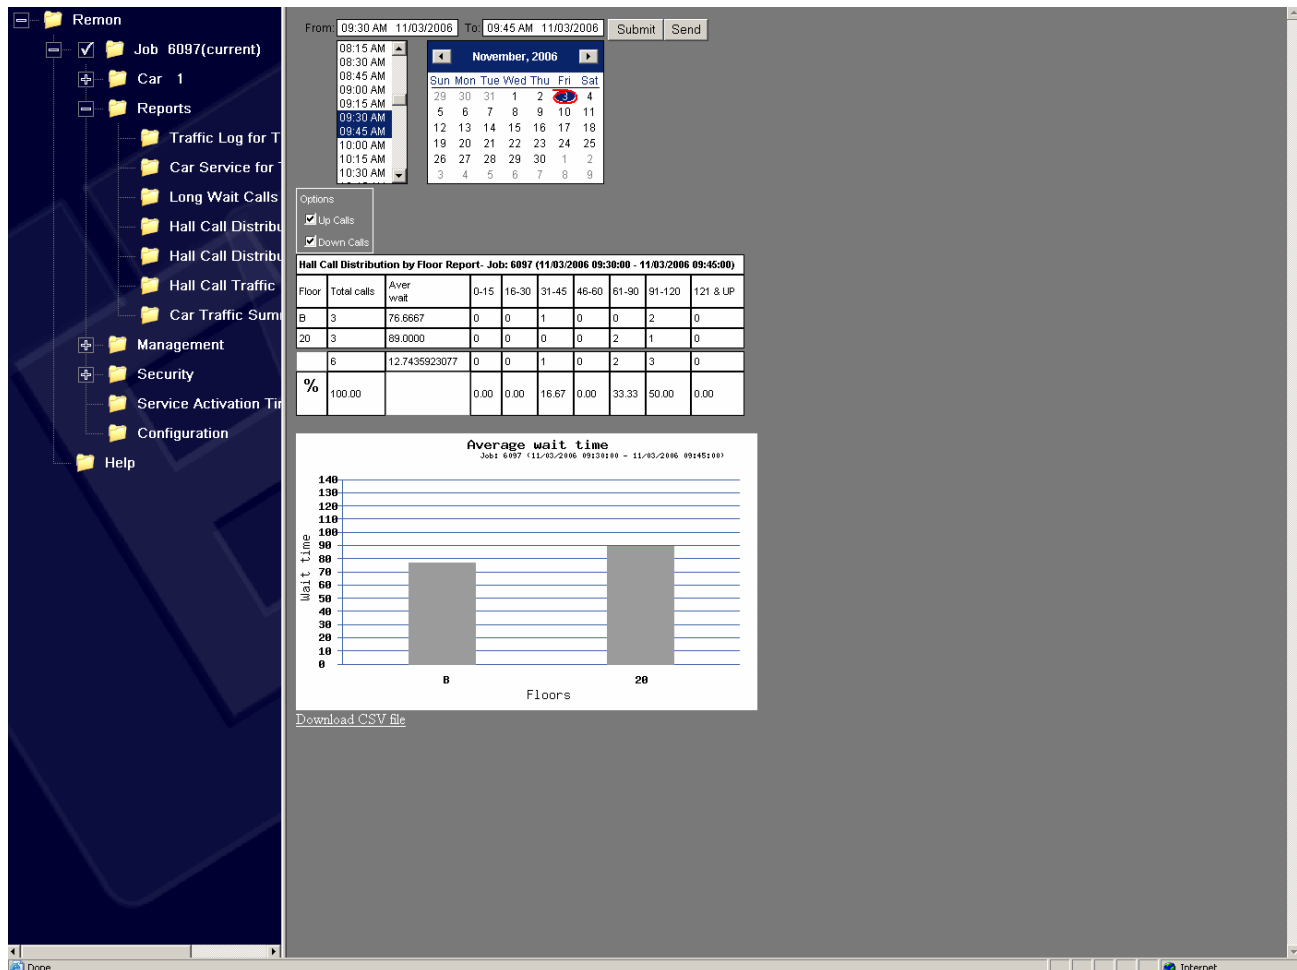

Figure 30. Hall Call Distribution By Floor Report
- Click “Submit” button to display the report in the data display area as shown in Figure 30. Hall Call Distribution By Floor Report. After receiving the report the user can adjust time range and resubmit his request. The report is redisplayed with different data corresponding to new time range.